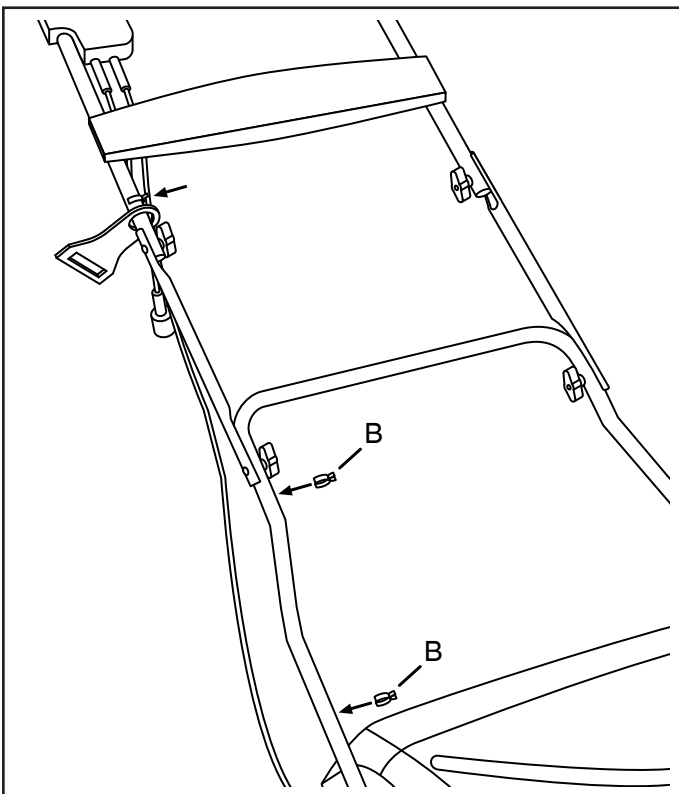

FIGURE 6
STEP 6: (SEE FIGURE 6)
- Clip the power cord holders (B) onto the lower and upper handle tubes and then clip the power cord into the holders.